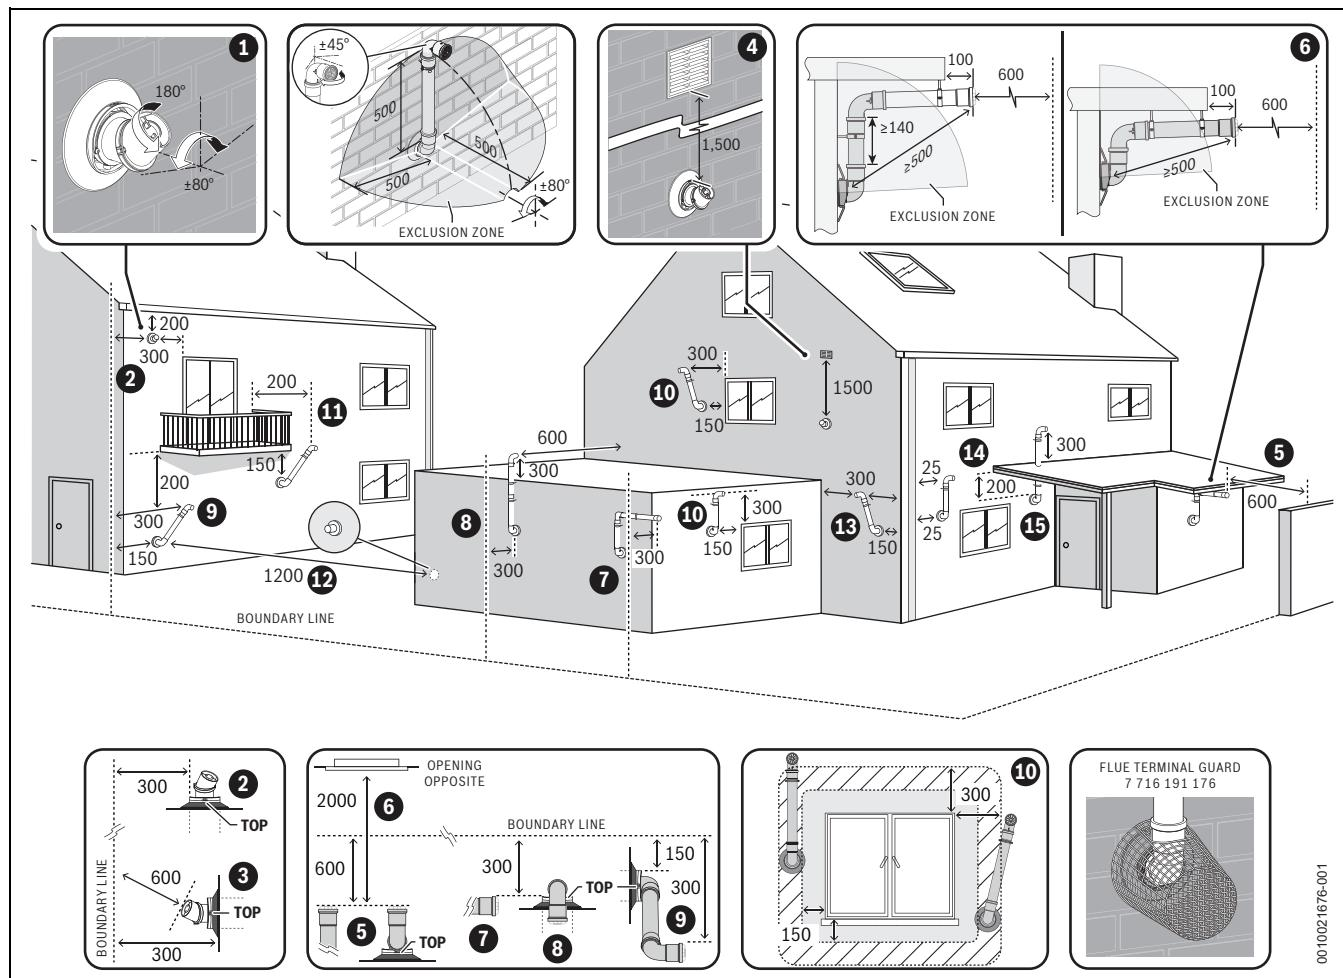

Fig. 34 Plume re-direct and plume management terminal positions
- ▶ Refer to "Horizontal flue terminal positions" for all concentric flue terminal positions unless the flue position is specified in figure 34 "Plume re-direct and plume management terminal positions".
### Key to figure 34